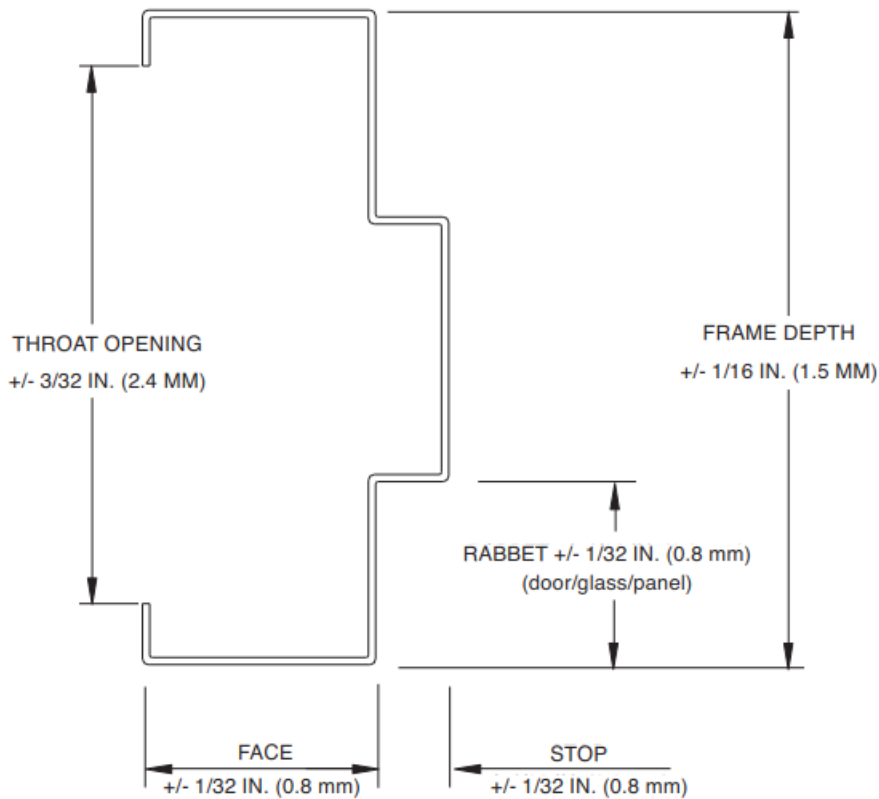

Figure 1
2. Cross sectional profile dimensions (see Figure 1):